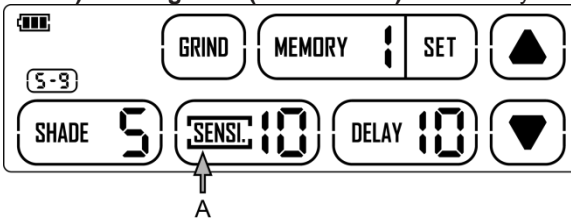

fig. 6
Touch the “SENSI.” on display screen to set the sensitivity (see fig. 6-A), touch “▲” and “▼” to make the lens more or less sensitive to arc light of different welding processes. Sensitivity setting 5-10 is the normal setting for everyday use. The sensitivity ranges for each mode are as follows:
**Weld Mode(Shade 5 ~ 9) / Cutting Mode(Shade 9 ~ 13) – Sensitivity 0 ~ 10** (see fig. 6)